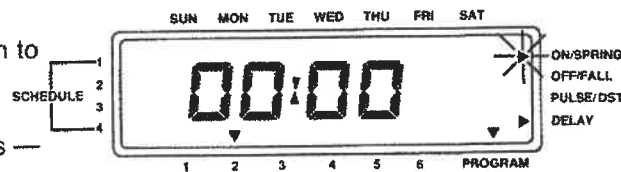

Figure 8
2. "On" (see Figure 8 for display) or "pulse" (see Figure 9 for display) type event
- b. "On" (see Figure 8) or "pulse" (see Figure 9) type event